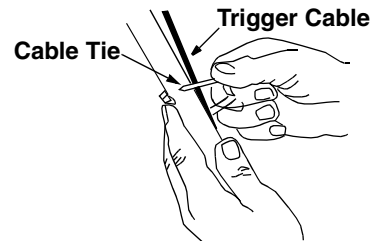

Figure 15
- Secure the right turn trigger cable to the right lower handle using cable tie provided in the hardware pack. Make sure not to wrap *the drive cable*. See Figure 15.
- Wrap the wire from the lamp down the right handle as shown in Figure 15.